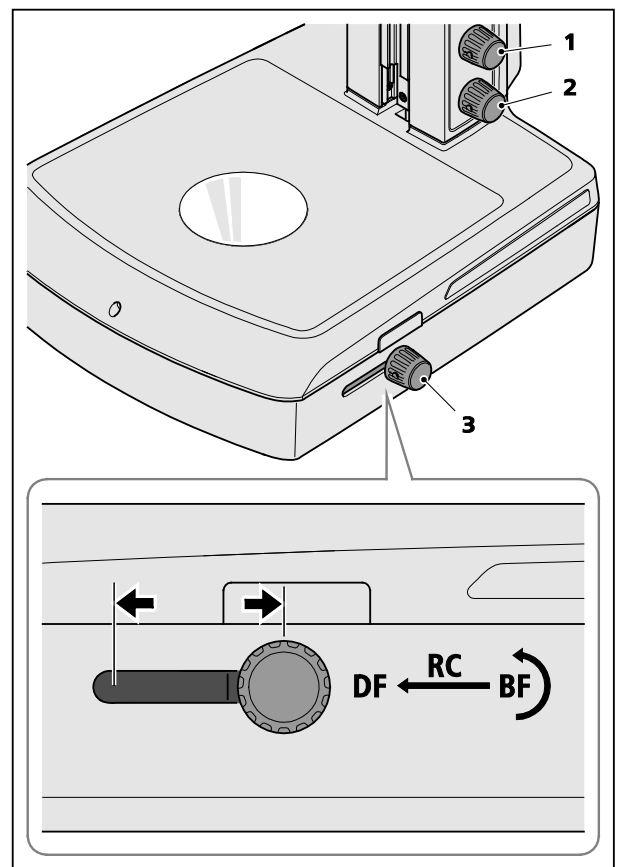

Fig. 5 Operating the Transillumination Unit
- Press the lower knob (Fig. 5/2) to switch on the transmitted light illuminator and adjust it by turning the illumination intensity control.
- To adjust the transmitted light brightfield illumination, slide the rotary / slider button (Fig. 5/3) to the rear position (BF).
- To set lateral transmitted light darkfield illumination, slide the control knob (Fig. 5/3) to the front position (DF).
Slide the rotary / slider button (Fig. 5/3) to a central position (RC) and then tilt the mirror to create oblique illumination which reveals the structures of unstained specimens in relief contrast.
Press/turn the upper illumination button (Fig. 5/1) to add a variable amount of reflected light to the set transmitted light.